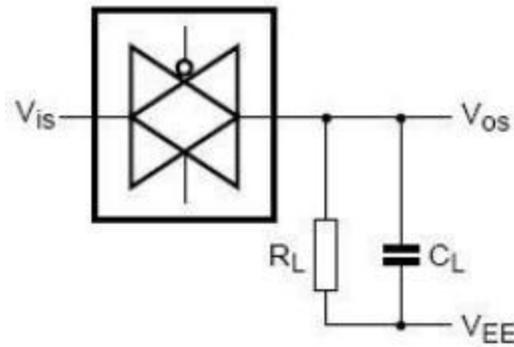

Figure 9. Square wave distortion degree of cut-off frequency and conduction frequency test pattern
| Square wave distortion | d_{sin} | see Figure 9; $R_L=10k\Omega$; $C_L=15pF$; channel ON; $f_i=1kHz$ | $V_{DD}=5V$ | 0.25 | - | - | % |
- [3] $R_L=1k\Omega$; $C_L=5pF$, channel off, $20\log V_{os}/V_{is}=-50dB$, see Figure 9.
- [4] $R_L=1k\Omega$; $C_L=5pF$, channel on, $20\log V_{os}/V_{is}=-3dB$, see Figure 9.